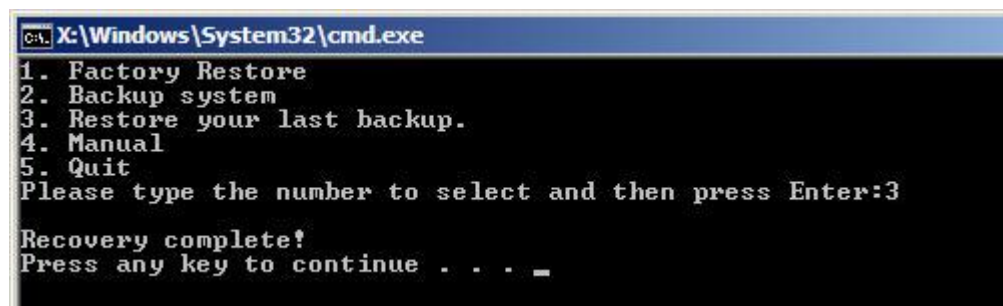

Figure C-40: Restore System Backup Complete Window
Step 3: The screen shown in **Figure C-40** appears when backup recovery is complete. Press any key to reboot the system.